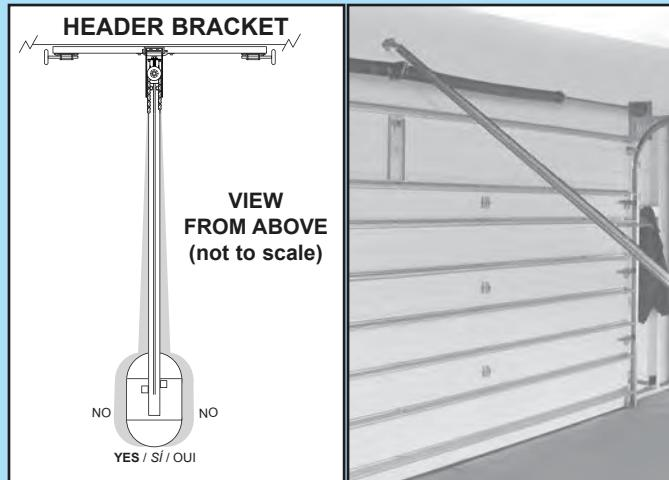

FIG. 2-4 Position assembly and align.
- Position assembled rail on wall next to header bracket (**Fig. 2-4**).
NOTE: Before final attachment to ceiling, insure that assembly is in proper alignment (Fig. 2-4**).**